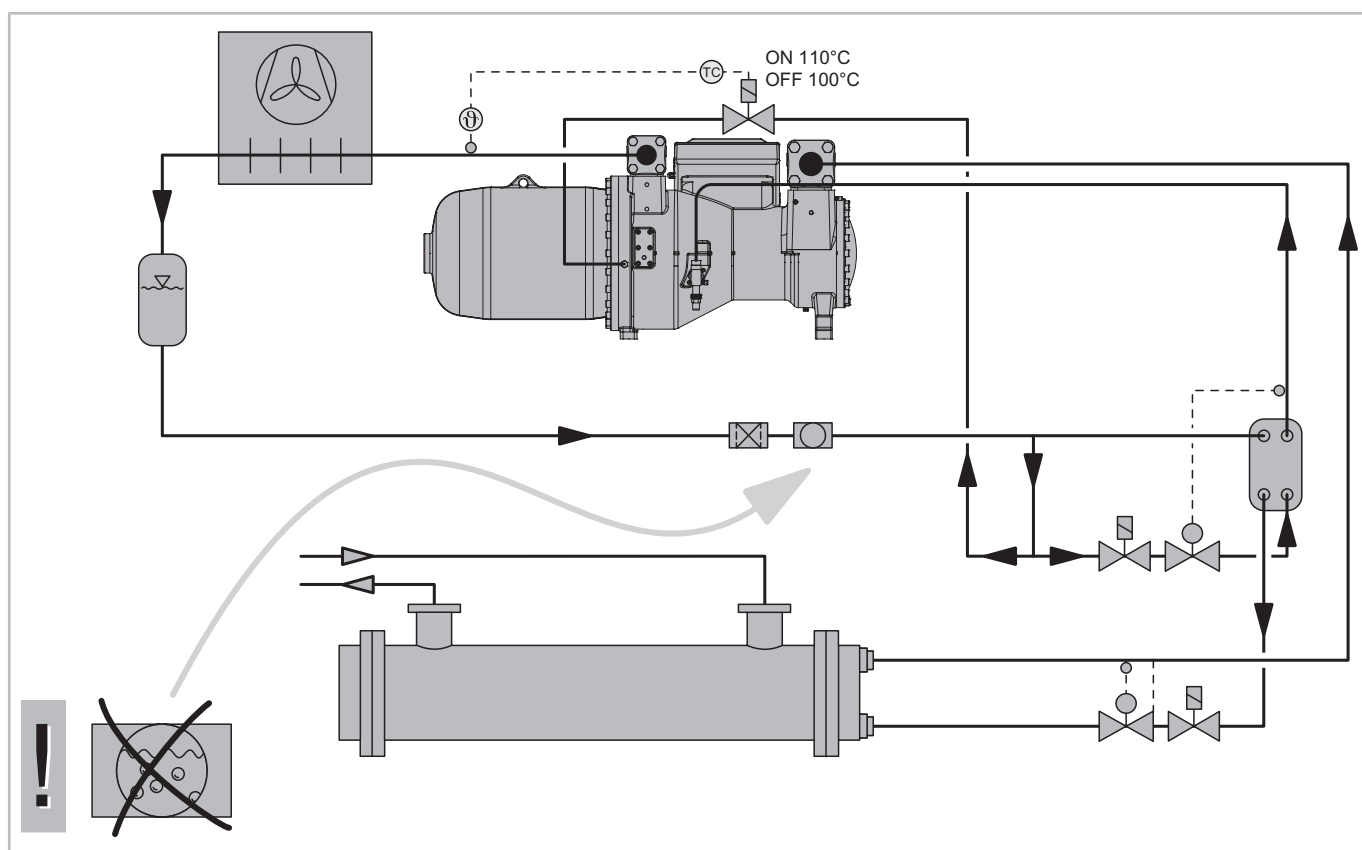

Fig. 23: ECO operation with liquid injection using a compressor from the CSH series as an example
System layout: *see figure 23, page 62*
- Solenoid valve control: in parallel to the compressor motor via normally open (NO) contact and additionally via thermostat.
- CSH compressors ON 110°C / OFF 100°C (*see figure 23, page 62*)